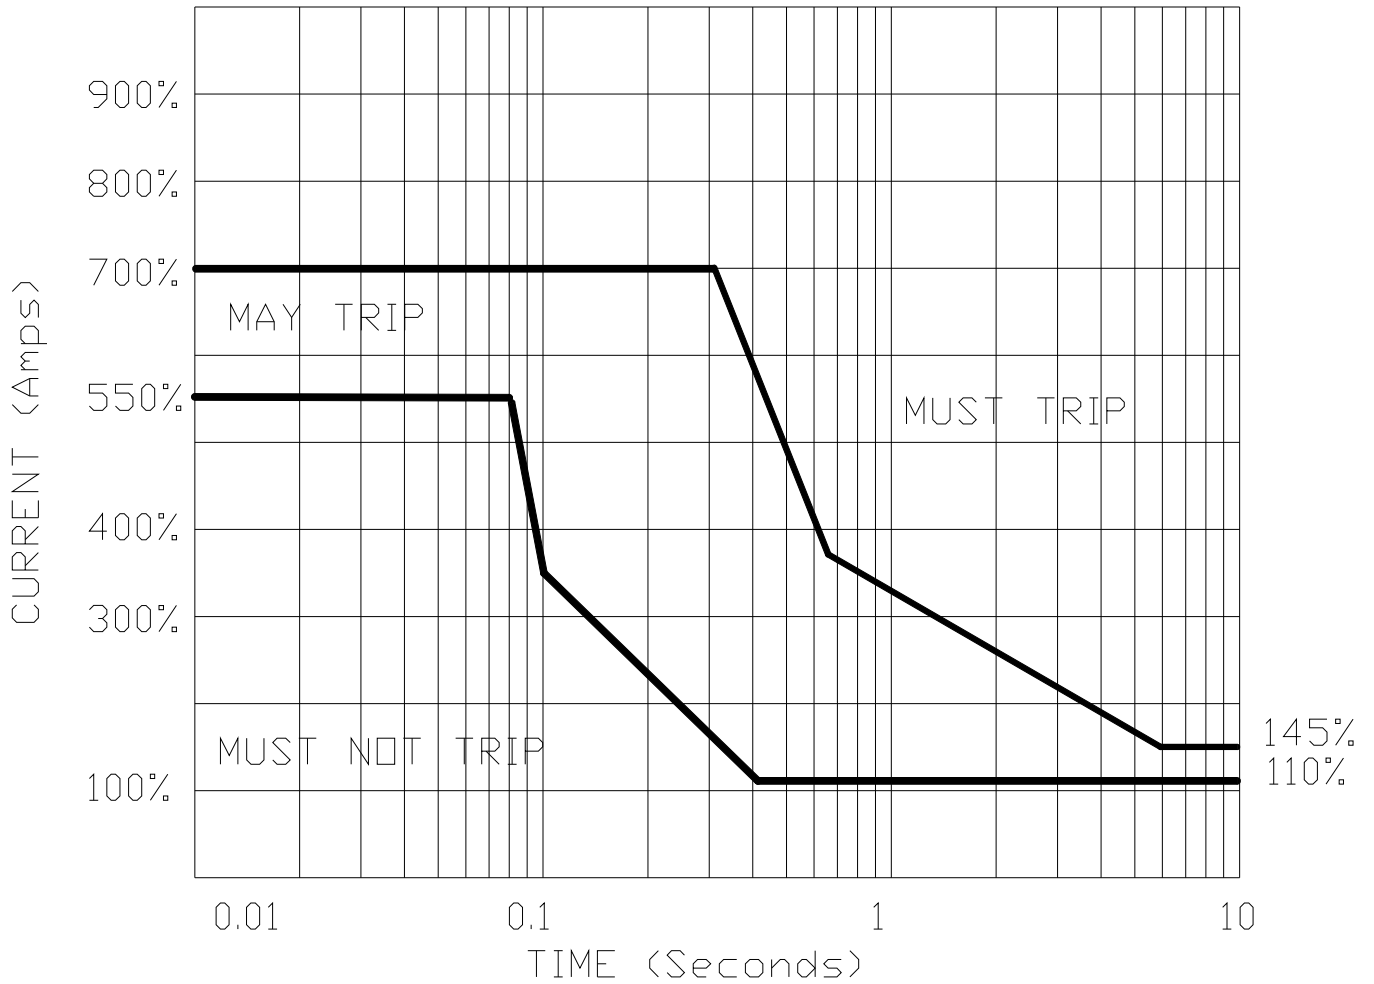

Figure 5.
5. A turn-on into an overload results in a shutdown defined by time and current expressed in Figure 5.
- 1) Figure 5 curves are shown from 10m sec to 10 Sec. Dynamic behavior conditions apply below 10m sec.